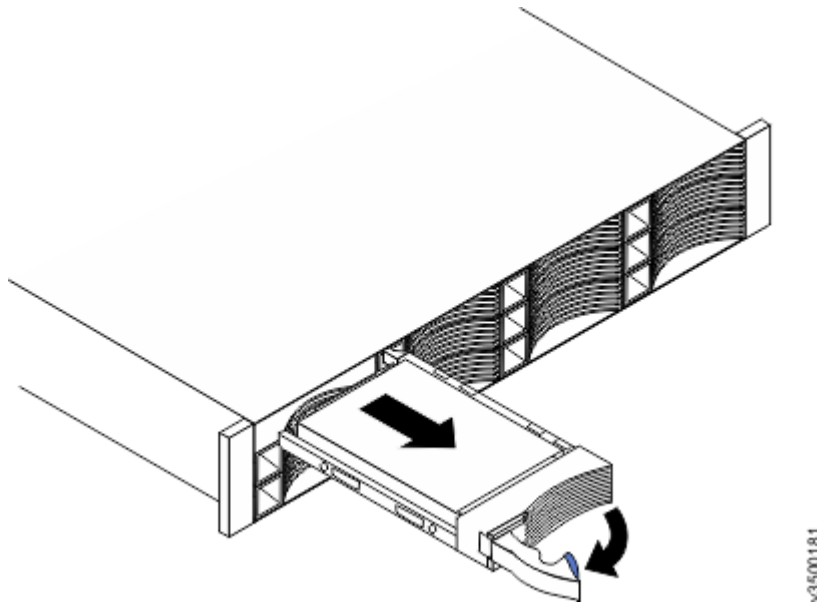

Figure 126. Unlocking and removing a 3.5-inch drive from its slot
5. Pull out the tray handle to the open position (see Figure 126 on page 163).